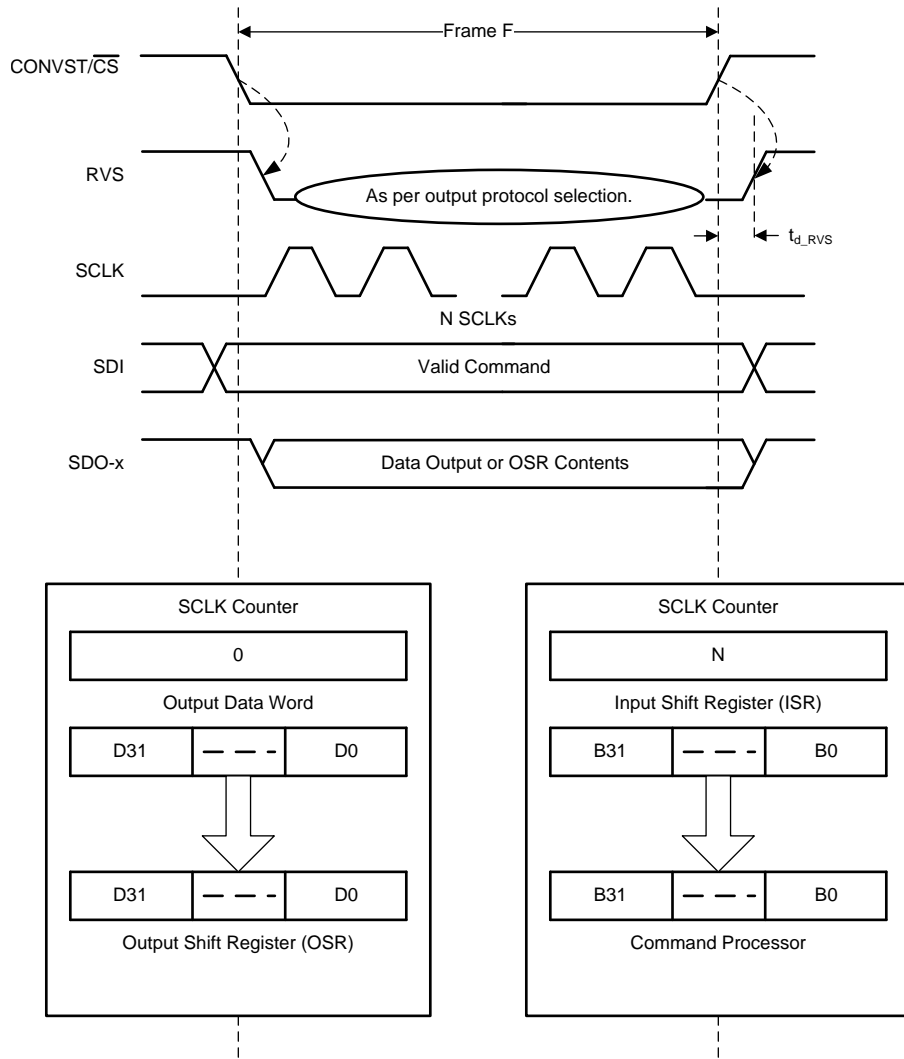

Figure 74. Data Transfer Frame
A data transfer frame between the device and the host controller begins at the falling edge of the CONVST/ \overline{CS} pin and ends when the device starts conversion at the subsequent rising edge. The host controller can initiate a data transfer frame by bringing the CONVST/ \overline{CS} signal low (as shown in Figure 74) after the end of the CONV phase, as described in the CONV State section.
- The device takes control of the data bus. As illustrated in Figure 74, the contents of the output data word are loaded into the 32-bit output shift register (OSR).
- As illustrated in Figure 74, the contents of the input shift register are transferred to the command processor for decoding and further action.